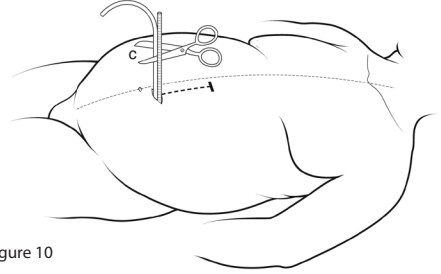

Figure 10
6. Insert the Measuring Rod (located in the separate sterile pouch along with the Tunneling Tool) beginning with the tip marking 1 cm, into the primary incision next to the Lower Catheter, perpendicular to the fascia and parallel to the catheter. Advance the Measuring Rod until the tip meets the rectus fascia. See Figure 10.
7. Hold the external limb of the Lower Catheter next to, and parallel to, the Measuring Rod. Using the centimeter markings on the Measuring Rod, cut the Lower Catheter at the C length above the level of the fascia (Figure 10). Make a single, straight, perpendicular cut of the tubing with suture scissors.